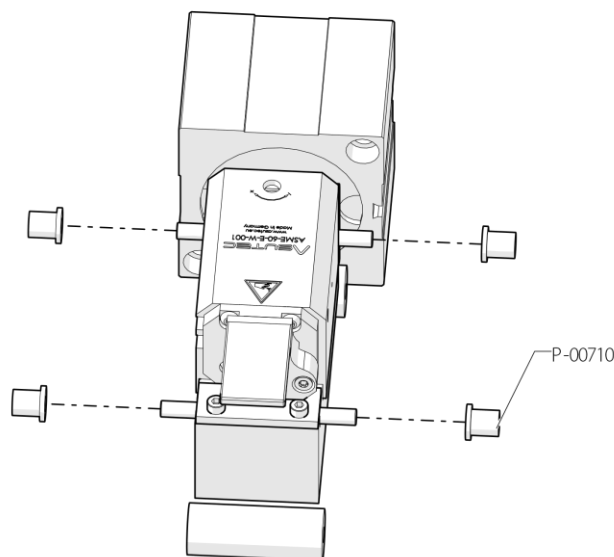

Figure 43: Remove all four P-00710
Step 4: Remove P-00710 as shown in Figure 43.